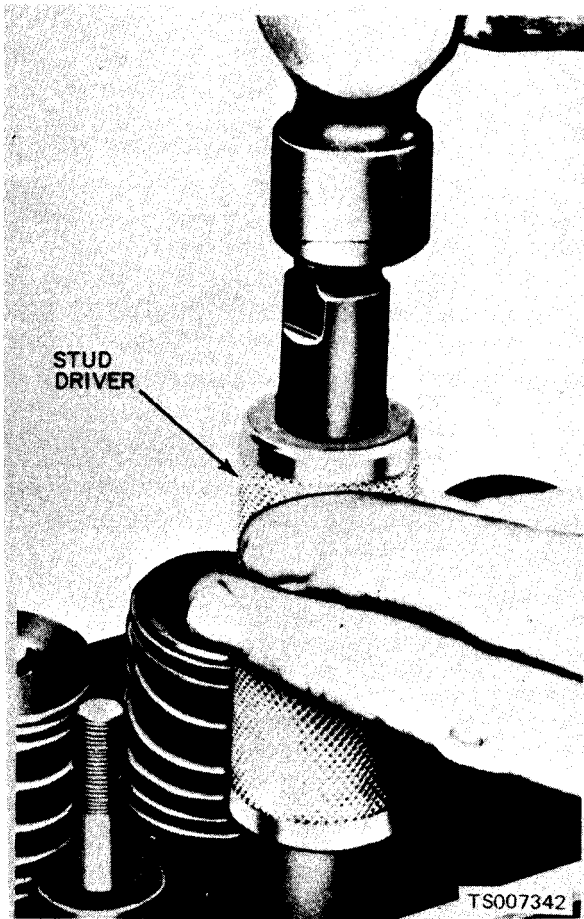

Figure 6-13. Installing New Rocker Arm Studs.
(4) Install new studs with a stud driver tool as shown in figure 6-13. Exercise care to set new stud at same height as adjacent studs not being replaced.